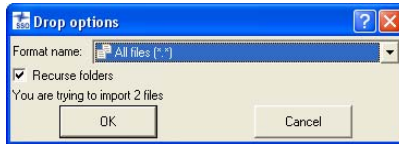

Figure 3-2. Drop Options for Drag-and-drop Importing
- When using this procedure with the right mouse button, the **Drop options** dialog box displays for increased import control (Figure 3-2). Click **OK** to continue.